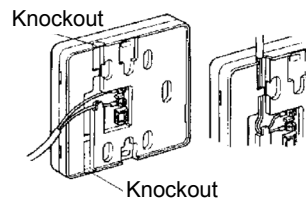

Fig. 3
2. Connect the cable to the kitchen remote control as shown in Fig 3. At this point cables from other controllers (if fitted) may also be connected to the kitchen remote terminals eliminating the need to have multiple cable runs directly to the hot water heater, controllers are not polarity sensitive.
If the cable cannot be run in the wall cavity, remove the plastic 'knockout' lugs as shown in Fig. 3.